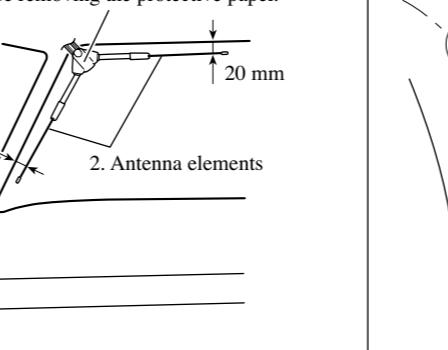

Fig. 11
**5. Sticking antenna elements to a window. (Fig. 11)**